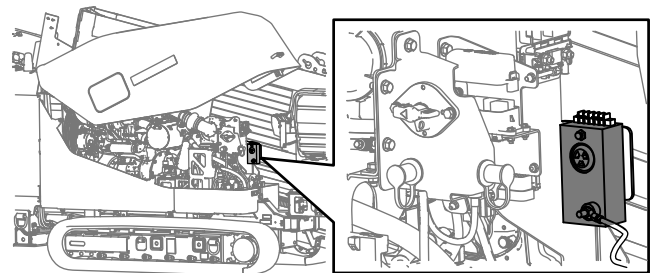
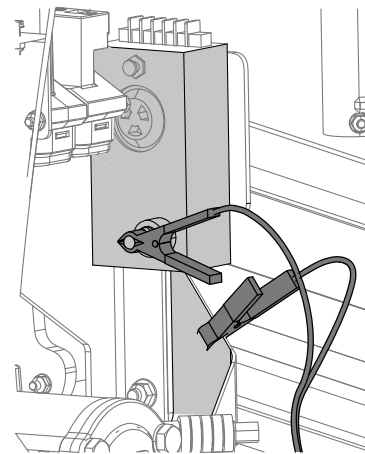

Figure 46
Figure 47
4. Connect an alligator clip from the Zap-Alert tester to the grounding stud on the Zap-Alert system (Figure 46 and Figure 47).